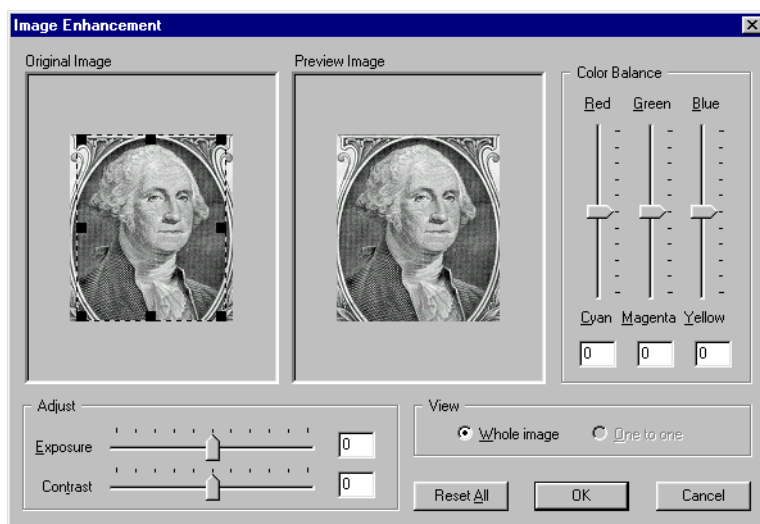

Figure 23: Image Enhancement
- Once the photograph has been created/located, the photograph is placed into the Image Enhancement window where it can be edited to improve the quality of the image as it will be printed on the badge (see Figure 23).